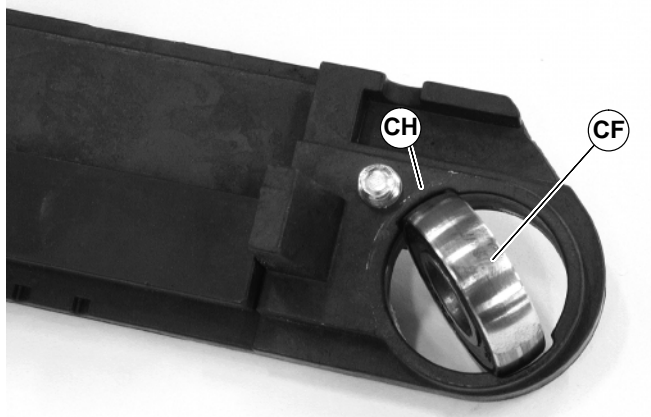

Figure 48
1. Turn bearing (CF of Figure 48) to align with slots (CH) in head plate. Then remove bearing.